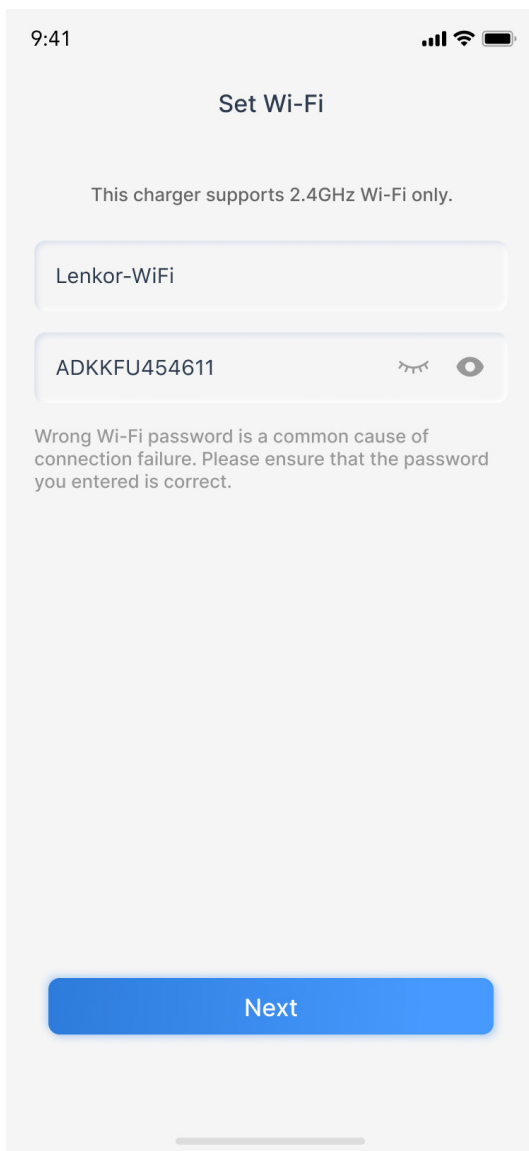

Fig.6.1.8
8. Enter the Wi-Fi name and password and tap Next. (See Figure 6.1.8)